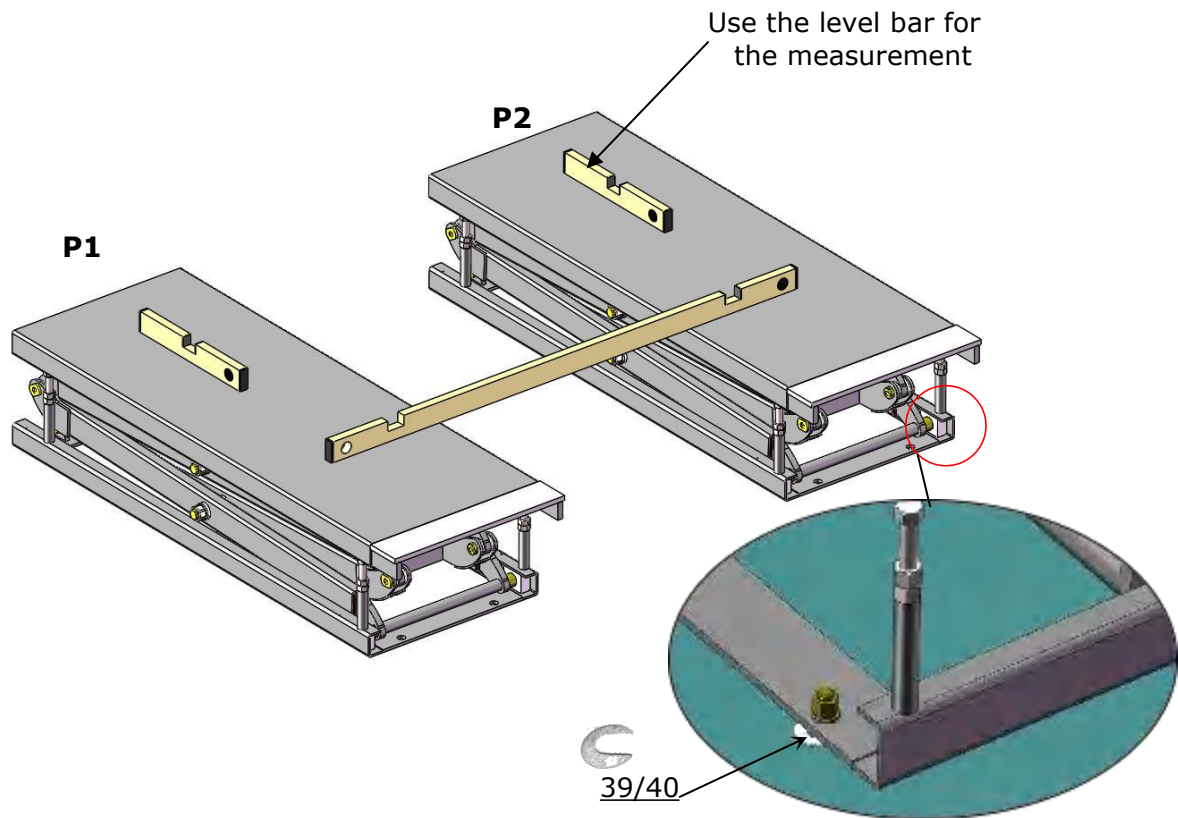

Fig. 25
4. Check by level bar and use the shim to adjust the platforms until two platforms are in the same level. Tighten the anchor bolts with spanner after leveling. (**See Fig.25**)